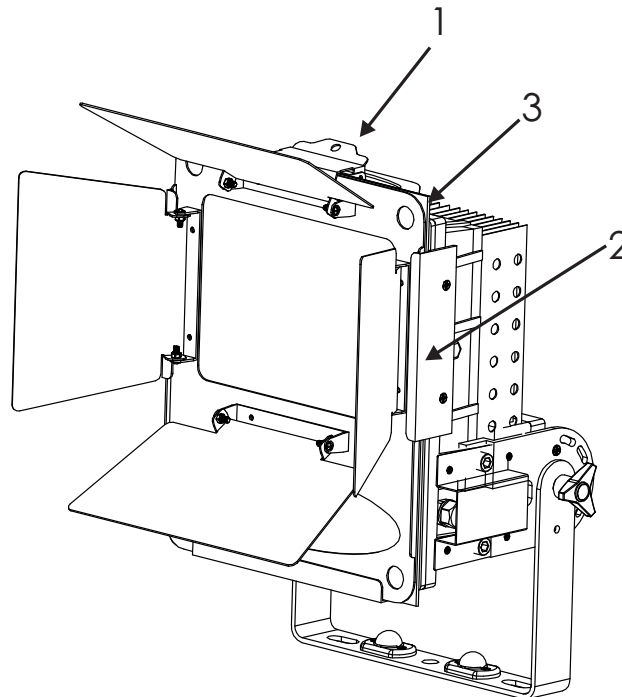

Figure 6. MBL20 Barndoors
1. See Figure 6. Pull back the spring clip (1) on the top of the fixture and slide the barndoors into the channel (2) provided on the front of the fixture. Release the spring clip and ensure that it is holding the top of the barndoors in place.
2. Install a safety bond between one of the holes (3) in the top corner of the barndoors assembly and the main fixture to prevent the barndoors falling if they become detached from the main fixture.